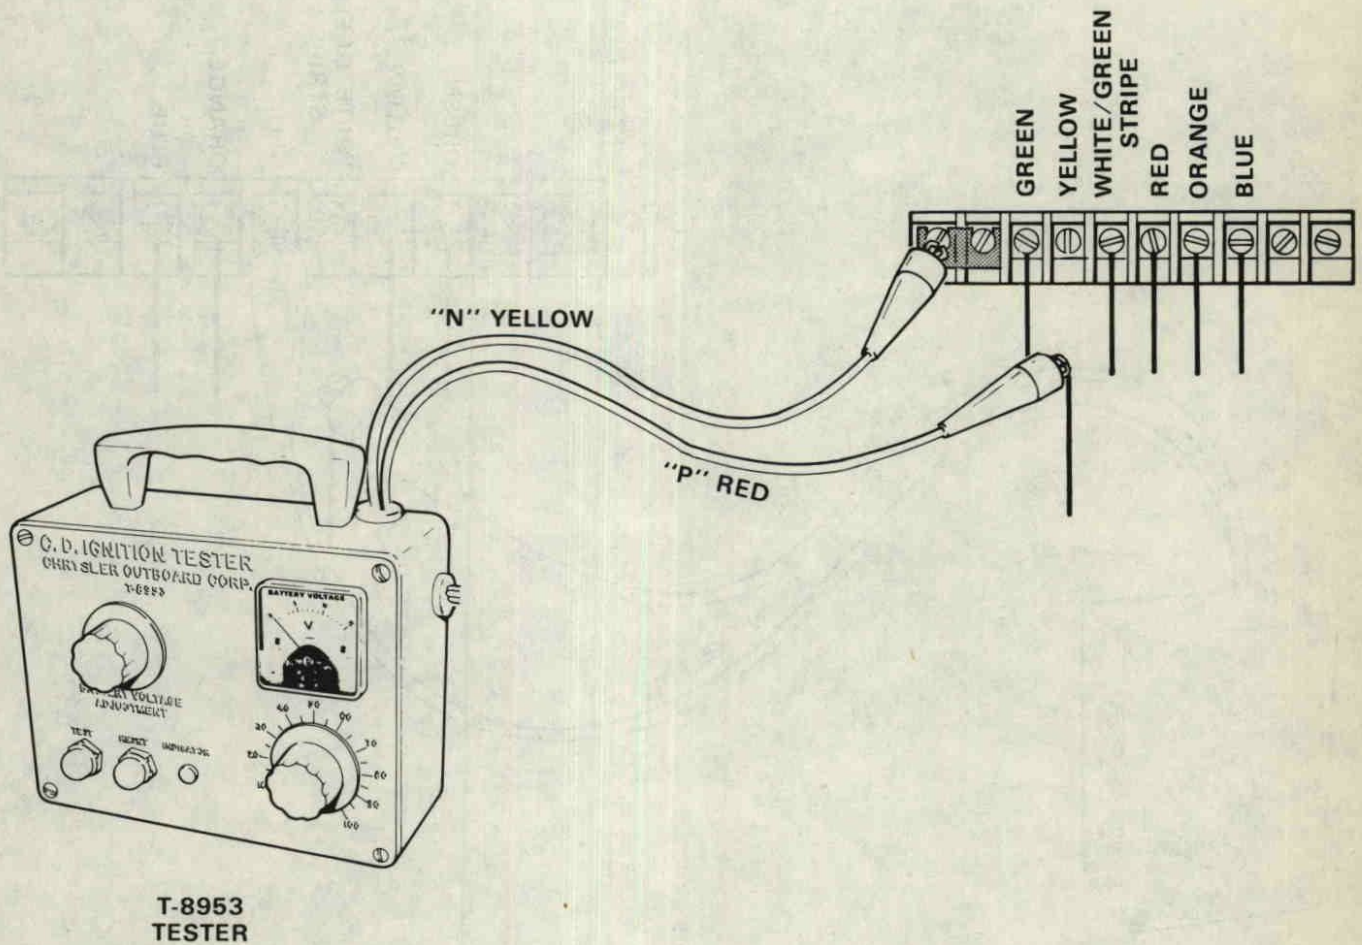

Figure 6
2. Connect "P" lead (red) of T 8953 Tester to yellow wire, Figure 6.
terminal, Figure 6.